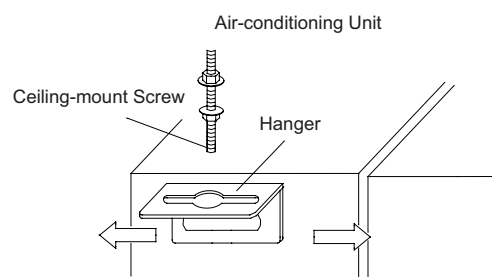

Figure 1-1-2
- ◆ Install the hanger onto the indoor unit as shown in Fig.1-1-2.